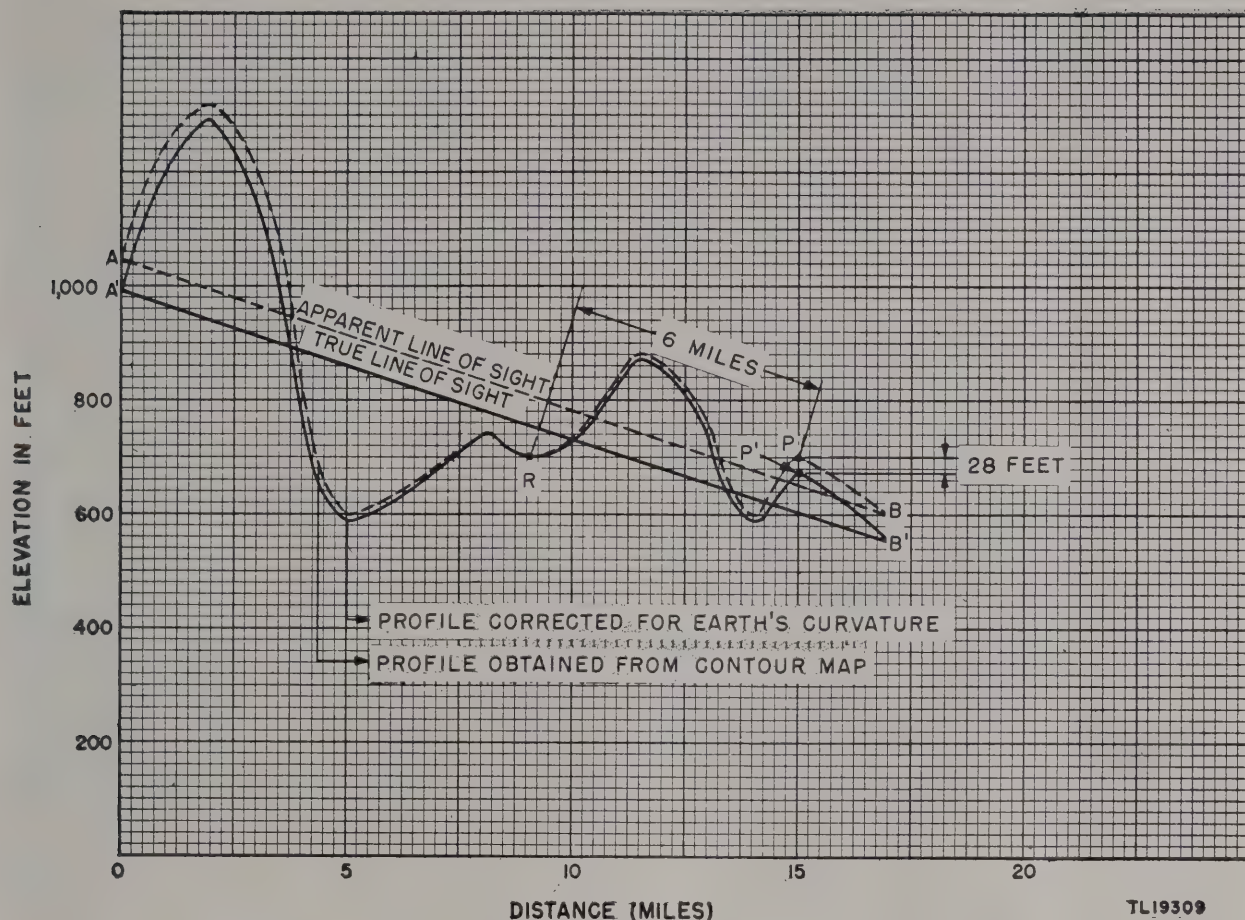

Figure 50. Plotting profiles on linear graph paper.
b. Pick out high and low points along the line and plot these on the graph paper (fig. 50). The uncorrected profile path is plotted as a broken line curve on this type of graph paper, as the example shown in figure 50.
d. Correction must be made for the curvature of the earth to obtain a true picture of the line-of-sight path. A high or low point is selected which is as near as possible to the point halfway between the terminals (in this case R). Next, by means of the figures shown in table IV, the heights of all prominent points in both directions from this central point must be corrected (shown as a solid line curve). For example, point P shown in figure 50 is 6 miles from reference point R. After correction, P becomes P¹, which is 28 feet lower than the original point.